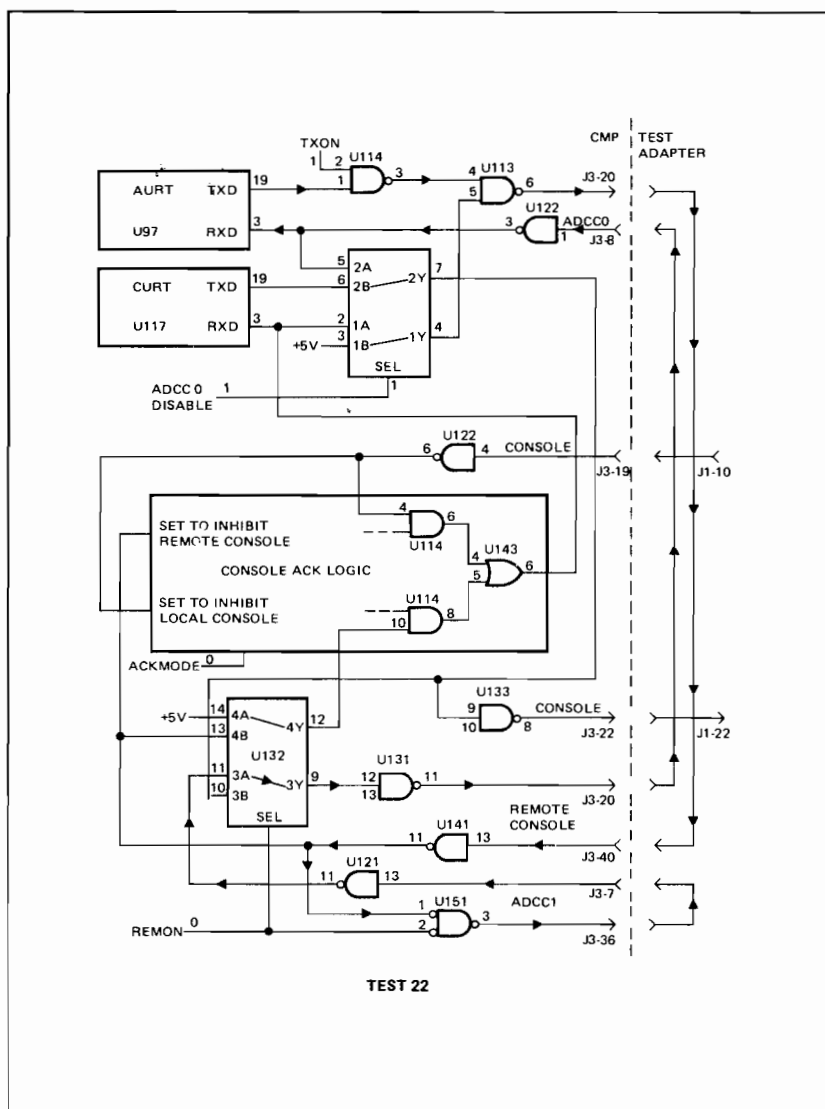

Figure 3-11. Data Comm Test Step 22
- 22 ACK logic is cleared in preparation for tests 23 and 24. (See Figure 3-11.)